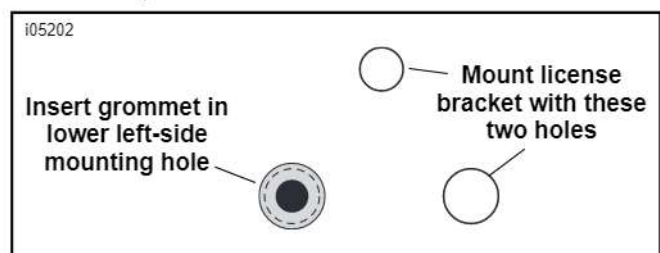

Figure 13. Grommet Location in License Plate Bracket
5. Cut one 5 inch (127 mm) long piece and two 2-1/2 inch (64 mm) long pieces off the small diameter conduit (10) from the kit. Insert the long section of conduit that remains, from the back side, through the hole in the grommet (12) from the kit. Allow about one inch (25 mm) of conduit to exit the grommet from the front.
6. See Figure 13. Insert the long end of the conduit and the grommet into the lower left-side hole in the license-plate bracket, through the support and into the fender.